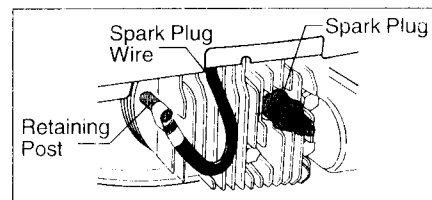

FIGURE 5: Spark Plug/Retaining Post
1. Disconnect spark plug wire and attach to retaining post (figure 5).